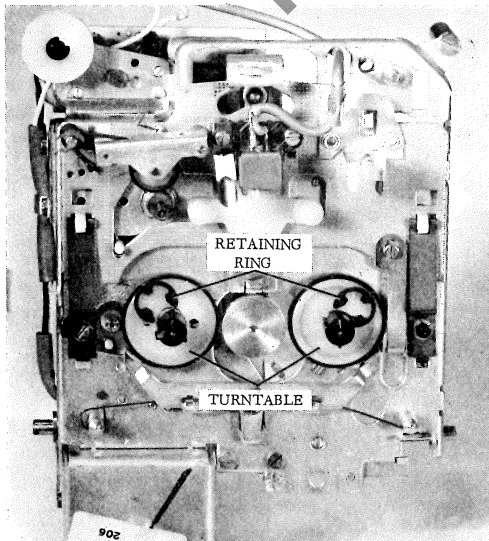

Figure 1
1. Position one RETAINING RING, Part No. 0019030006, on each TURNTABLE as shown in Figure 1.